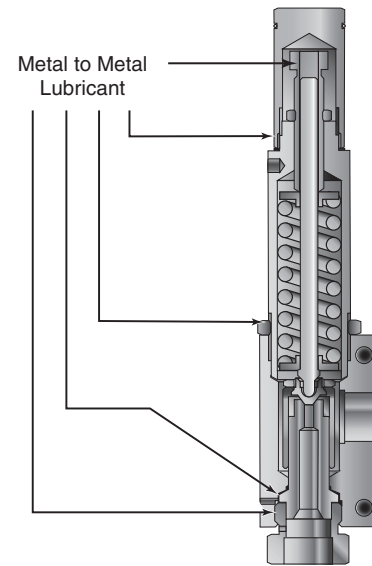

Figure 4
5. **Relief Valves** - Threads should be lubricated on the cap, spring cylinder, adjustment bolt and on the seat gland. Refer to Figure 4 for lubrication sites on the relief valve.